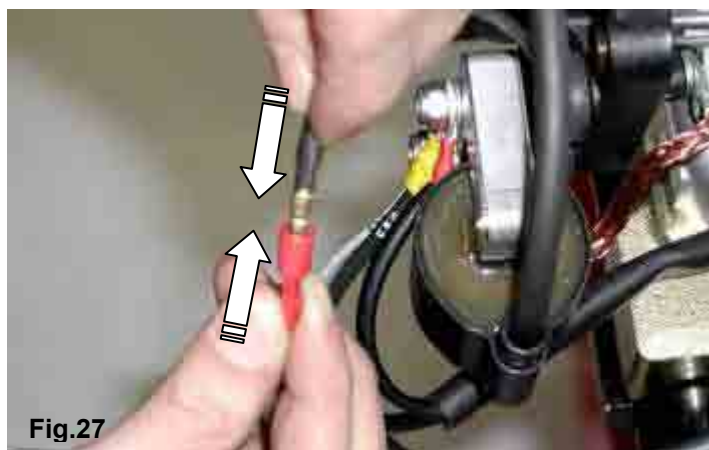

Fig.27
**2.9.8** CONNECT THE H.T COIL CABLE TO THE HARNESS TERMINAL (SEE FIG.27).